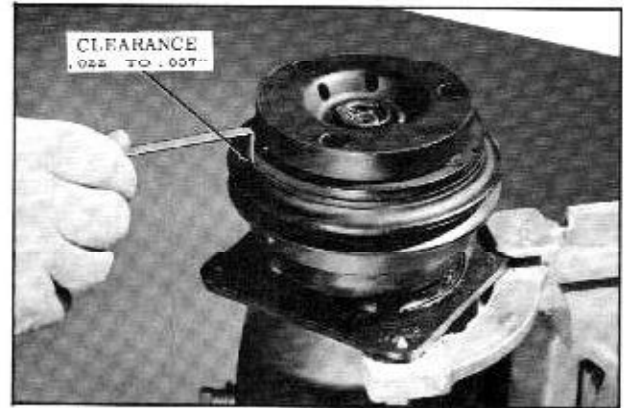

Fig. 14-23 Checking Air Gap
7. Install the lock nut, using a thin wall socket. Tighten 14 to 16 foot pounds torque. The air gap between the friction faces should now be between .022" to .057" clearance. (Fig. 14-23)